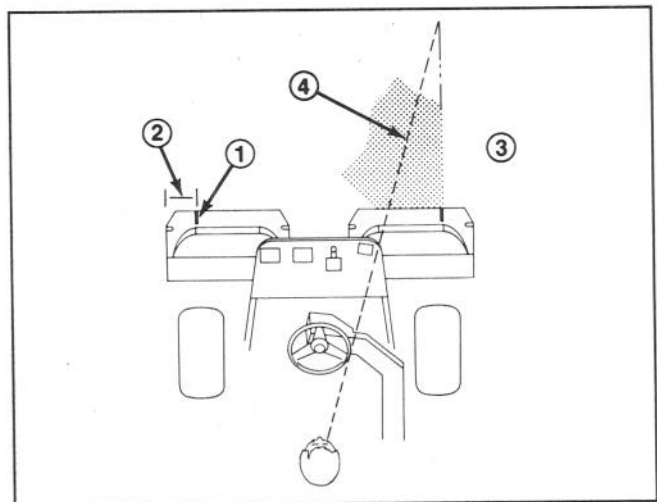

Figure 21
2. Either place a strip of white tape or paint a line onto each basket paralleling the outer edge of each basket (Fig. 21)
3. Overlap a minimal amount with the previous cut on return passes. To assist in maintaining a straight line across the green and keep the machine an equal distance from the edge of the previous cut, establish an imaginary sight line approximately 6 to 10 feet ahead of the machine to the edge of the uncut portion of the green (Fig. 21 & 22). Some find it useful to include the outer edge of the steering wheel as part of the sight line; i.e. keep the steering wheel edge aligned with a point that is always kept the same distance away from the front of the machine (Fig. 21 & 22).